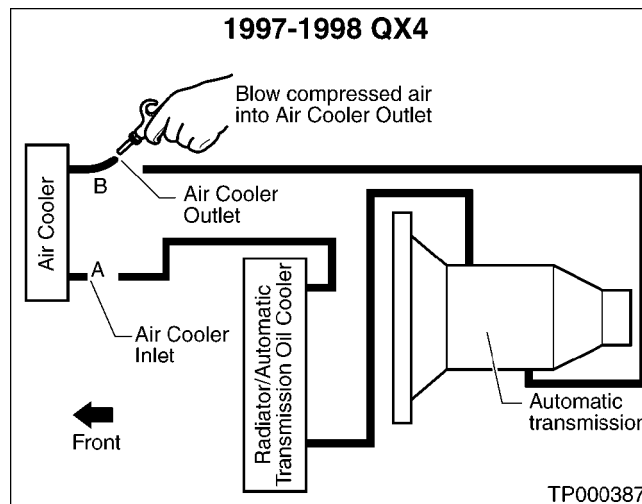

Figure 7
5. Insert the tip of an air gun into the end of the Air Cooler Outlet hose (see Point B, Figure 7).
7. Blow compressed air regulated to 5-9 kg/cm² (70 – 130 PSI) through the Air Cooler Outlet hose to force any remaining ATF and cleaner through the Air/Oil Cooler and out of the Air Cooler Inlet hose (see Point A, Figure 7).